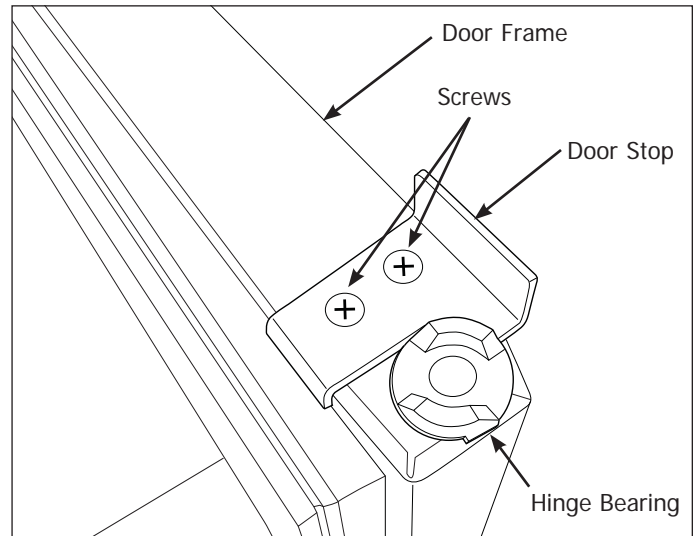

Figure 5-5. Door Stop Removal
2. Extract the two screws securing the door stop to the bottom of the door assembly. (See Figure 5-5)